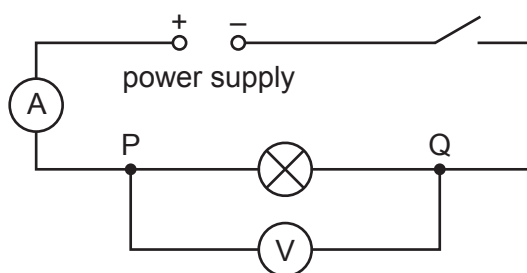

Fig. 1.1
- connecting leads to set up the circuit shown in Fig. 1.1, and one further connecting lead to allow the candidates to add the fixed resistor into the circuit.
4. The circuit should be set up ready for each candidate as shown in Fig. 1.1, with the switch open. The $10\ \Omega$ fixed resistor and extra connector should be at the side of the circuit.
The supervisor should check that the circuit is set up as in Fig. 1.1, with the switch open and the $10\ \Omega$ fixed resistor and extra connector at the side of the circuit.